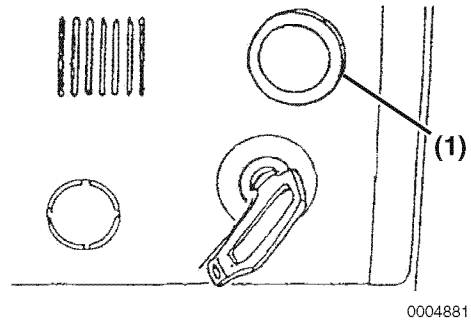

Figure 9
Push and hold the stop button (**Figure 9, (1)**) on the instrument panel to stop the engine. When the stop button is pushed, the solenoid valve on the fuel injection pumps stops the fuel supply to the engine.